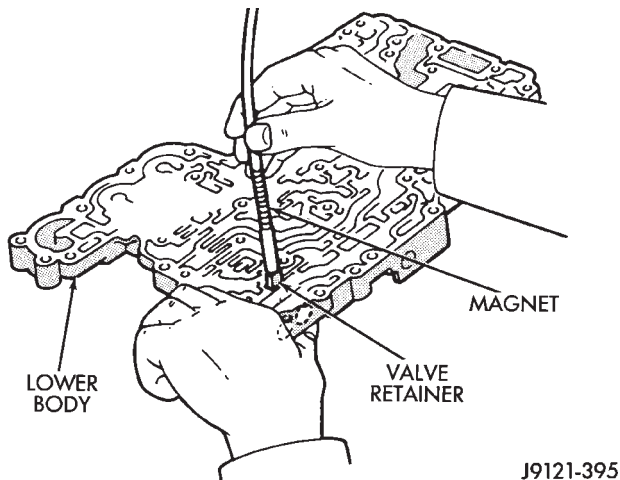

Fig. 3 Removing 1-2 Shift Valve Retainer
(4) Remove solenoid No. 1, 2 and 3. Discard solenoid O-rings.
(5) Remove 1-2 shift valve retainer (Fig. 3).